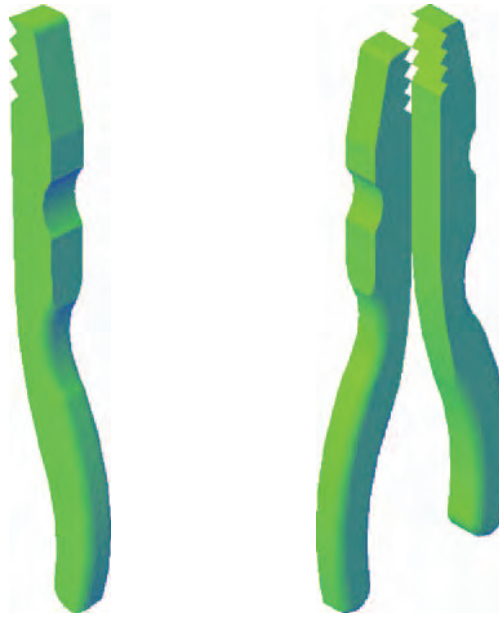

Fig. 14.17 First example – **3D Mirror** – before and after mirror
3. Extrude the region to a height of **5** and render. A **Conceptual** style shading is shown in Fig. 14.17 (left-hand drawing).
The result is shown in the right-hand illustration of Fig. 14.17.